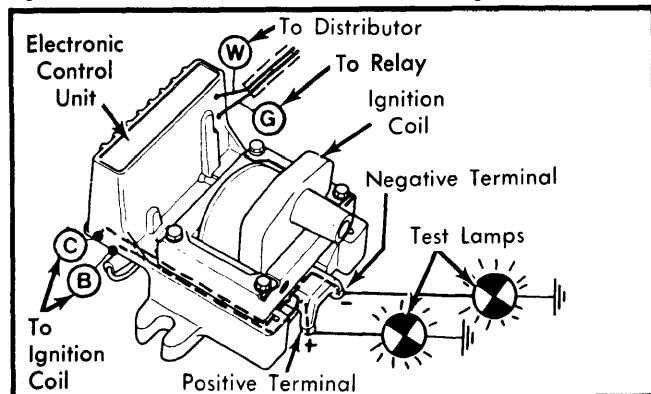

Fig. 9 Test Lamp Hookup for Checking Ignition Coil Voltage
1) Connect a 12-volt test light between the coil positive terminal and ground. Turn ignition switch "ON". Test light should light. If not, check feed wire to coil. See Fig. 9.